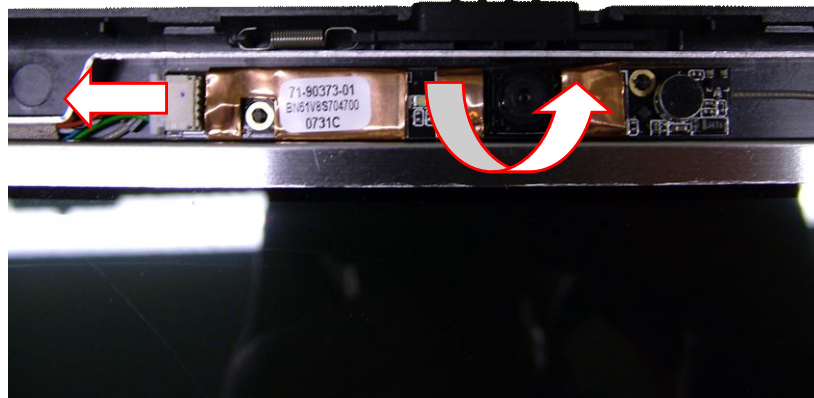

Fig. 40 Location of webcam connector.
2. Extract the webcam; it may be secured with glue and/or tape (see Fig. 40).